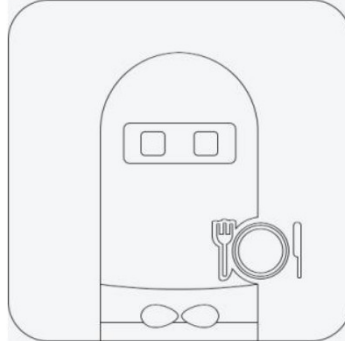

Figure 4 Icon of PEANUT APP
2. The PEANUT APP will be automatically opened after the system is started by default. If the PEANUT APP is not systematically opened, the user should find the PEANUT icon on the system desktop, as demonstrated in Figure 4, and the APP can be started by clicking this icon.